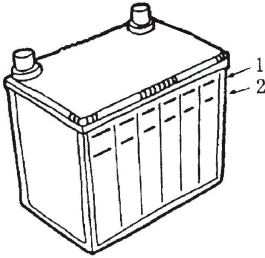

Figure 21
- 1.4.2 Check each cell of the battery to see if the electrolyte level of the battery is between the upper and lower level marked on the battery. (Figure 21) or measuring the battery voltage.